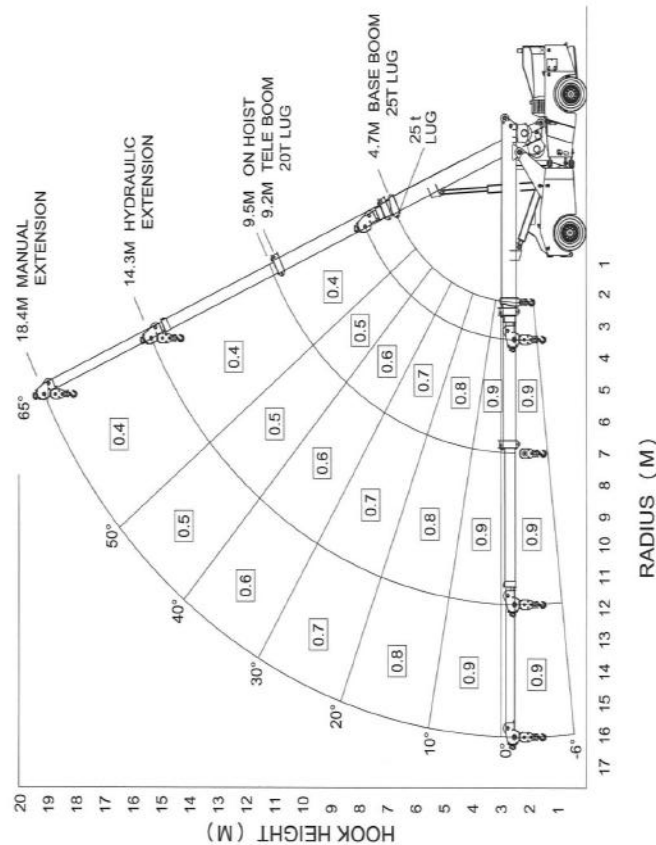

Fig 1. Deration Range Diagram
- From Fig 1. Range Diagram the deration factor can be found.